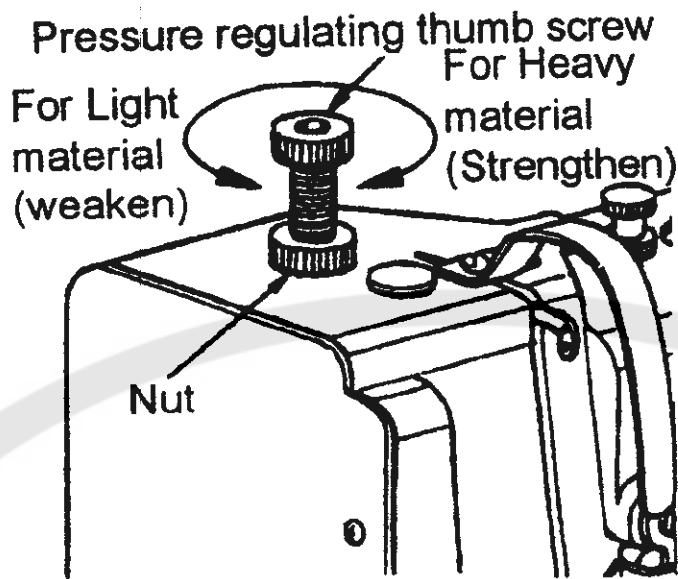

Fig. 5
10. Adjust the Pressure of Presser Foot (Fig.5):